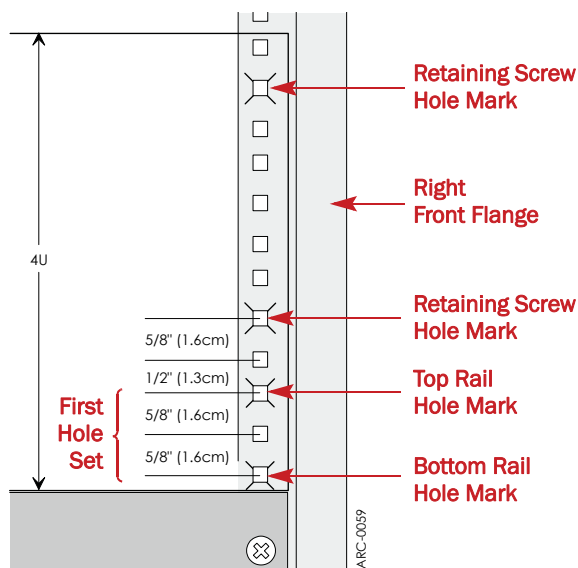

Figure 2. Holes Used for Attaching Rack Kit Rails
- a. Starting with the **right front flange**, at the bottom of the rack (or from the top of a previously mounted component), locate the **first set** (Figure 2) of three holes with equal gaps of 5/8 inch (1.6cm).